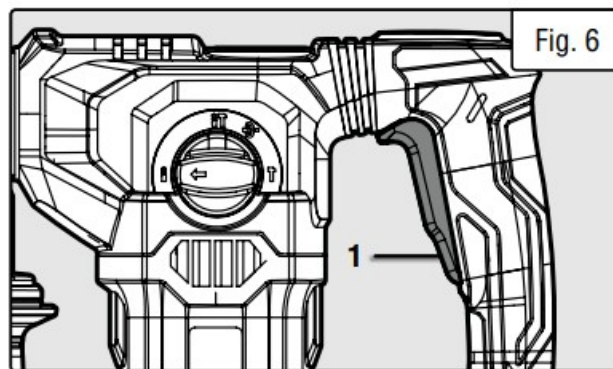

Fig. 6
1. Press the mode switch lock (Fig. 5 – 1) and simultaneously turn the mode selector switch (Fig. 5 – 2) to the angle adjustment mode as shown in Fig. 6.
2. To start the rotary hammer, press and hold the power trigger (Fig. 6 – 1).